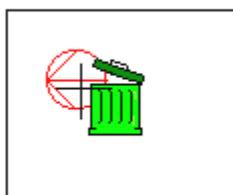

Figure 3-7: deleting objects
- Click on the relevant object, drag it with the mouse to the Trashcan in the drawing window and release the mouse button; you are in the right position when the lid of the Trashcan opens (see Figure 3-7).